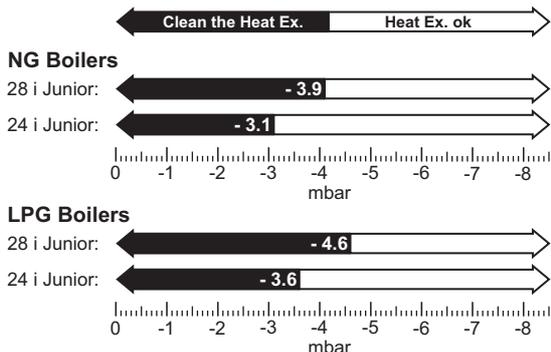

Fig. 81 Fan pressure readings
- ▶ The pressure will read negative, refer to the chart in figure 81.